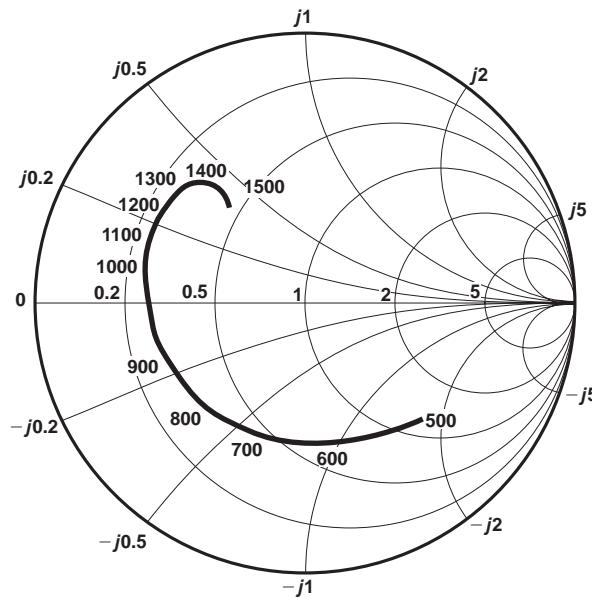

Fig. 4 Typical input impedance. Test conditions: supply voltage = $-5.2V$, ambient temperature = $25^\circ C$, frequencies in MHz, Impedances normalised to 50Ω
4. The input impedance of the SP8610/11 is a function of frequency, see Fig. 4.